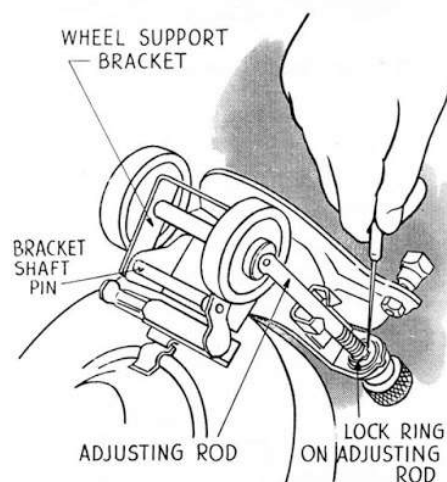

FIG. 85—Removing split lock ring from adjusting rod on Models 1-300-425-450-475
On Models 1, 300, 425, 450, 475, 541, 543, 575, 700, 725, 750, 800, 825, 961 and 972, the rear wheels are mounted at opposite sides of a wheel support bracket on a long "L" shaped adjusting rod. This bracket is in two sections, hinged together with a bracket shaft pin. See Figure 85.
3. Remove the split lock ring that holds the adjusting knob to the adjusting rod. See Figure 85.